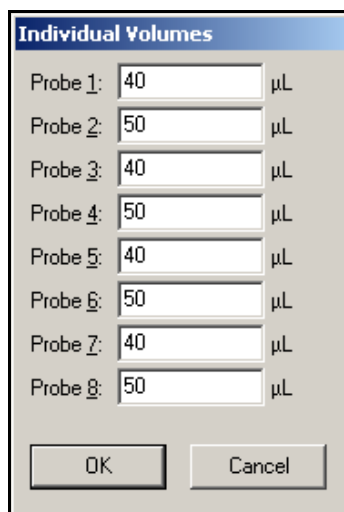

Figure 7-3. Individual Volumes configured for Span-8 Aspirate step
5. In Individual Volumes, alternate the volume aspirated by each probe between **40** and **50** to configure the volumes like Figure 7-3.